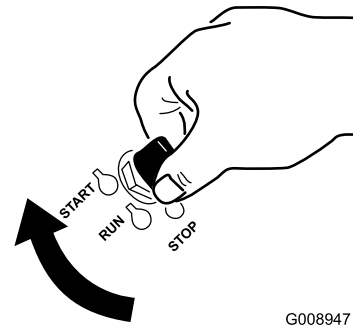

Figure 14
1. Turn the ignition key to the Start position (Figure 14). When the engine starts, release the key.